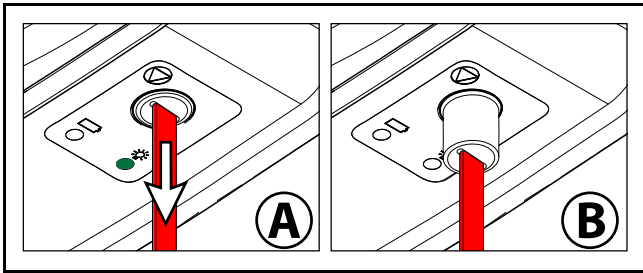

Fig. 8
- 1) To stop the lift in any emergency, gently pull the red emergency cord until you hear a “click” (see Fig. 8 - A). You will notice that the reset switch’s plastic insert, at the very top of the red cord, has descended (see Fig. 8 - B). The green power light has also turned off. You may also notice that the patient begins to descend slowly when the emergency stop is activated. This is normal.